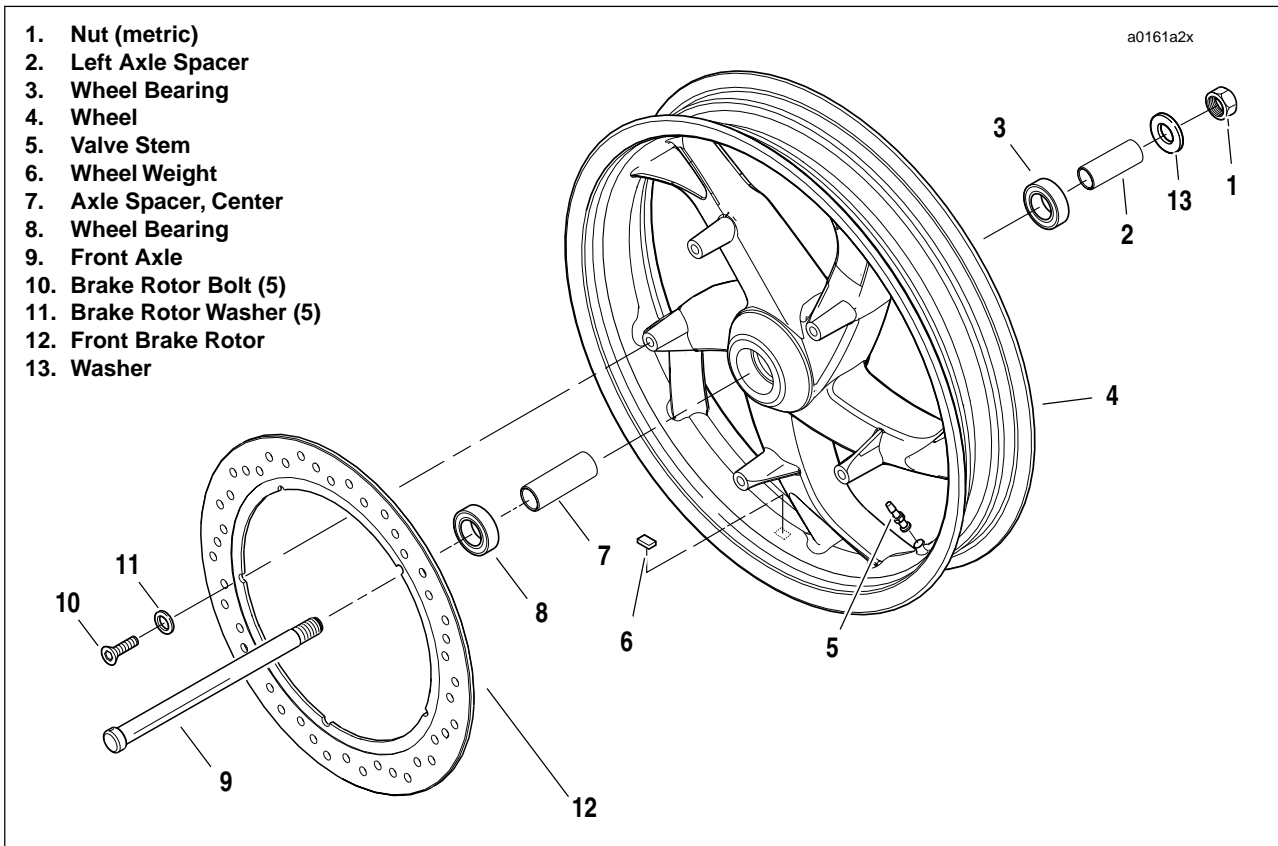

Figure 2-6. Front Wheel Assembly
1. See Figure 2-6. Remove five bolts (10) and washers (11) to detach front brake rotor (12) from wheel hub. Discard washers.
1. See Figure 2-6. Install front brake rotor (12) on right side of wheel.
- b. Apply LOCTITE THREADLOCKER 272 (red) to threads of each of the five T40 TORX screws (10).
- d. Install axle spacer (2) and washer (13).
3. See Figure 2-6. Install axle nut.
- b. Install axle nut (1) (metric) over threaded end of axle.
- d. While holding axle stationary, tighten axle nut (1) (metric) to 38-42 ft-lbs (51.5-56.9 Nm).